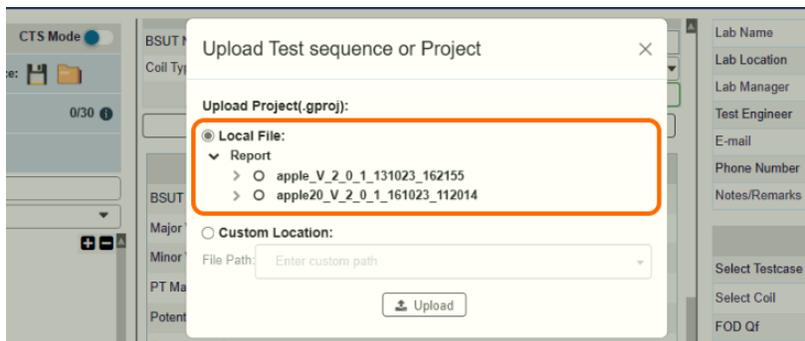

FIGURE 8.35: UPLOAD PROJECT— #2
2. If the required project file (**.gproj** file) was saved in the local file directory, select that project file under “Local File” as shown in Figure 8.35 below.